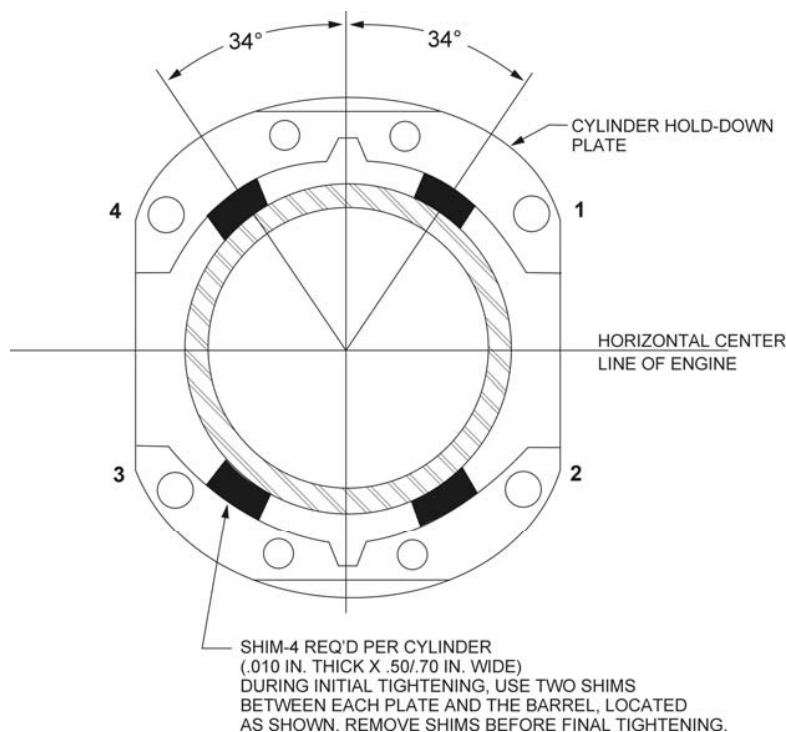

Figure 5-5. Location of Shims Between Cylinder Barrel and Hold-Down Plate
- (a) Install shims between cylinder base hold-down plates and cylinder barrels as directed in Figure 5-5 and tighten  $\frac{1}{2}$  inch hold-down nuts to 300 in.-lbs. (25 ft.-lbs.) torque, using the sequence shown in Figure 5-5.